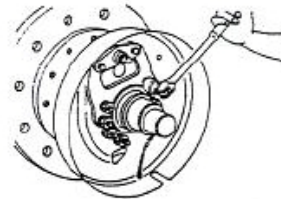

Figure 4
(4) Remove the main brake shoe and the auxiliary brake shoe, Remove the adjuster and adjuster spring at the same time, as figure 4